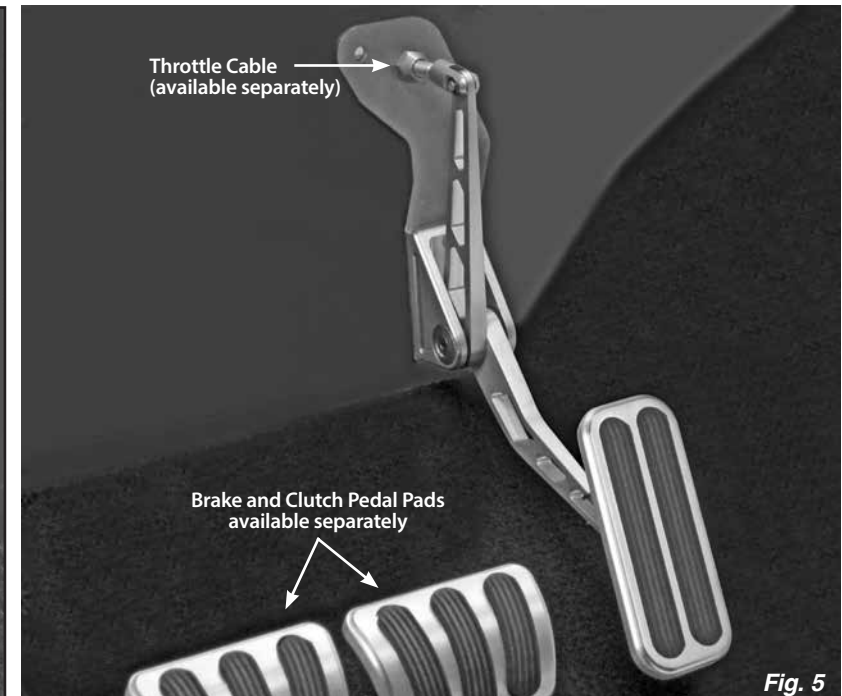

Fig. 5
Step 9: Reinstall the throttle pedal assembly into the pedal cradle as described in **Step 5** above. Install the Lokar Throttle Cable, following the instructions that are supplied with the Throttle Cable Kit. **Fig. 5**